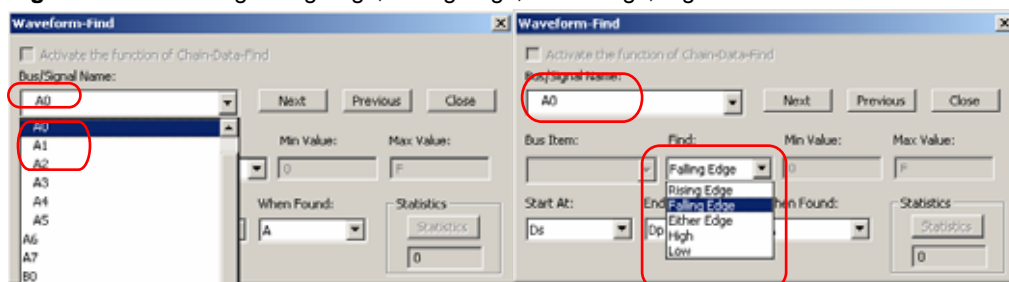

Fig 3-119: Waveform-Find Dialog Box of the Logic Signal
**Step3.** Choose the character for Find. The list of characters depends on whether it is a Bus, Signal, or the protocol analyzer such as I2C, UART, SPI, etc., which is being searched (See Figs 3-119, 3-120, 3-121, 3-122, 3-123, 3-124, 3-125, 3-126 and 3-127).